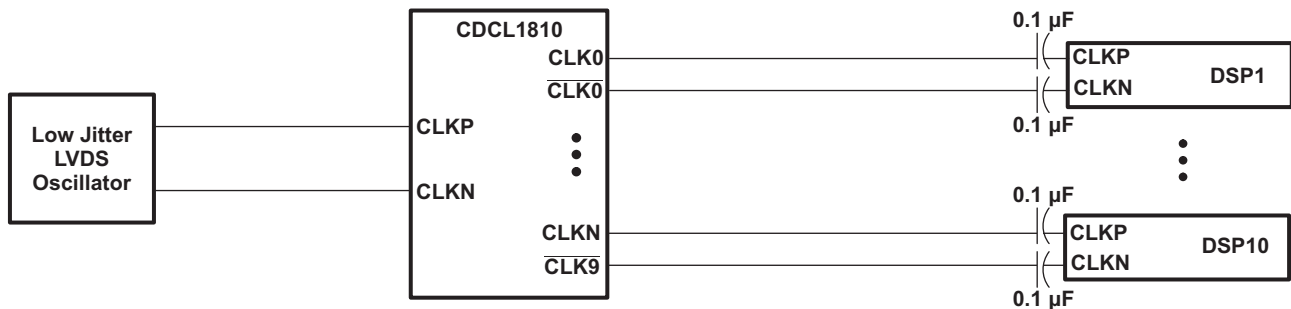

Figure 9. Multiple Devices 1.8 V LVDS Clock Solution
If 3.3 V is available, there are many options for clock oscillators and fanout buffers. There are fewer options for 1.8 V fanout buffers but TI does offer one: the CDCL1810 (see Figure 9).
- TI CDCL1810 1:10 clock fanout buffer (see Figure 9)